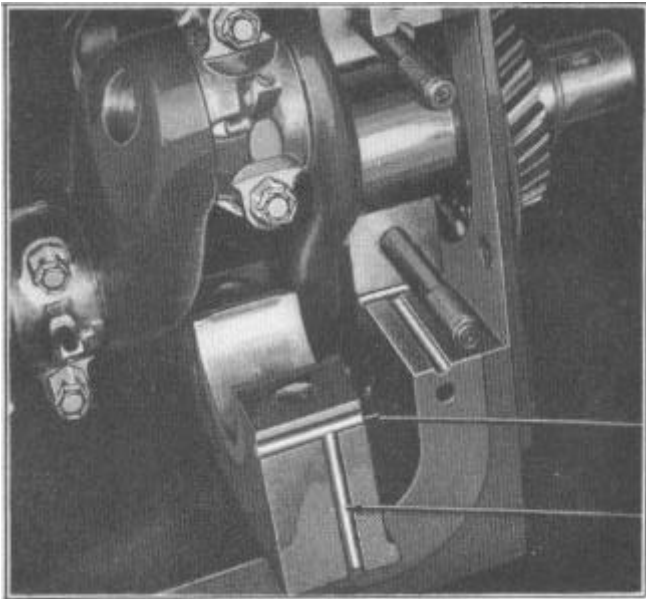

FIGURE 19
4. Thoroughly clean all traces of cotton packing from the grooves in the case and cap Figure 19 to avoid clogging of the oil passages.